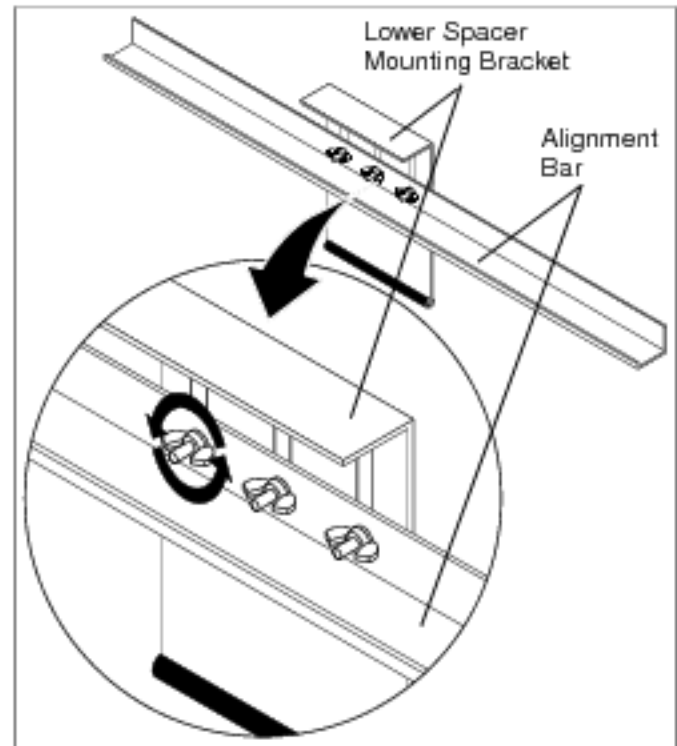

Figure 3
4. Loosen three wing nuts on spacer assembly until alignment bar can slide freely in slots of *LOWER* spacer mounting bracket. (See Figure 3)